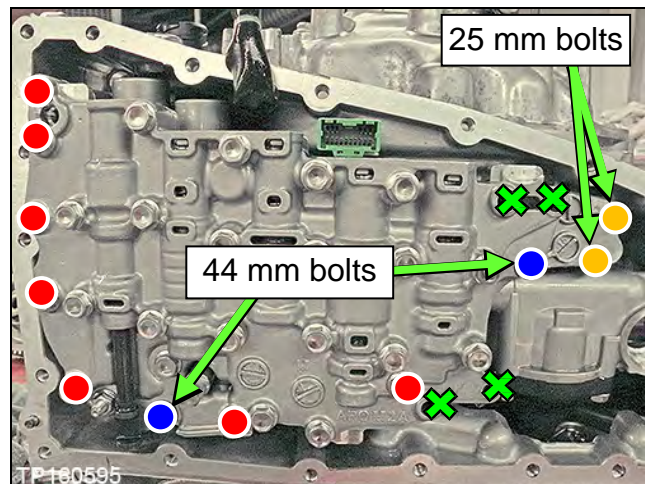

Figure 3J
2. Install the Control Valve with eleven (11) mounting bolts (Figure 3J).